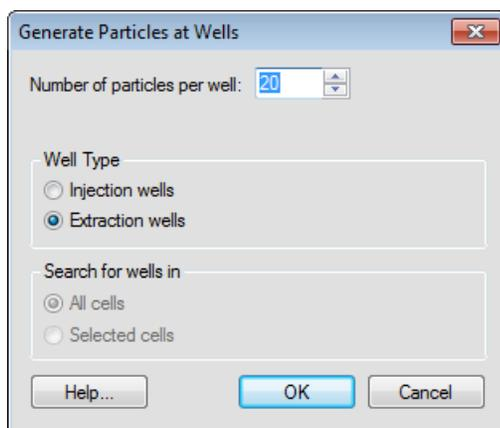

Figure 3 *Generate Particles at Wells* dialog.
1. Right-click the “backward” mod-PATH3DU model and select the **Create Particles at Wells** command. The *Generate Particles at Wells* dialog should appear as in Figure 3.